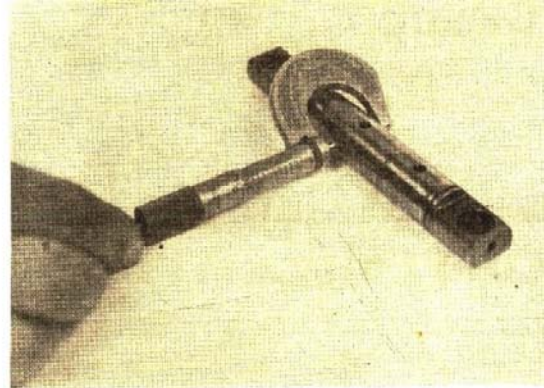

Fig. 4-3. Measure the cam follower shaft
3. Measure the outside diameter of the shaft with micrometers Fig.4-3. If worn smaller than 0.873 inch (22.17 mm) or is damaged, mark for replacement.